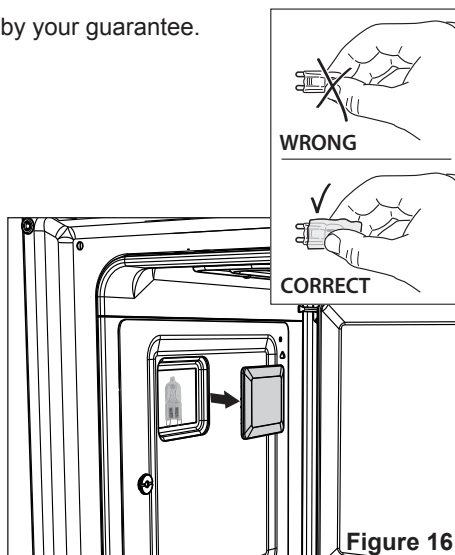

Figure 16
- Remove the protective cover (fig. 16).